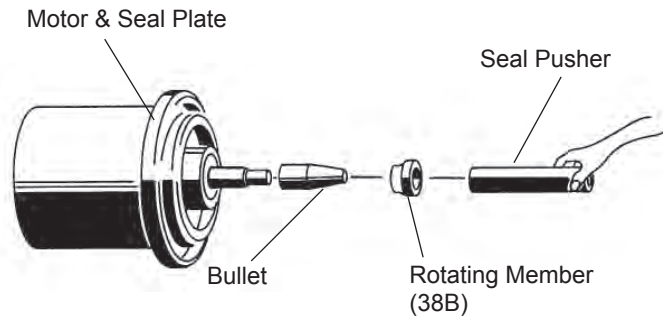

FIGURE 7
Slide retaining ring (38d) over shaft and let rest on bearing (39). Place spring (38c) over shaft and let rest on retaining ring (38d). Lightly oil (**DO NOT use grease**) shaft, bullet and inner surface of bellows on rotating member (38b), (See Figure 7), with lapped surface of rotating member (38b) facing outward, slide over bullet and onto shaft using seal pusher, making sure spring (38c) is seated in retaining ring (38d) and spring (38c) is lined up on rotating member (38b) and not cocked or resting on bellows tail.